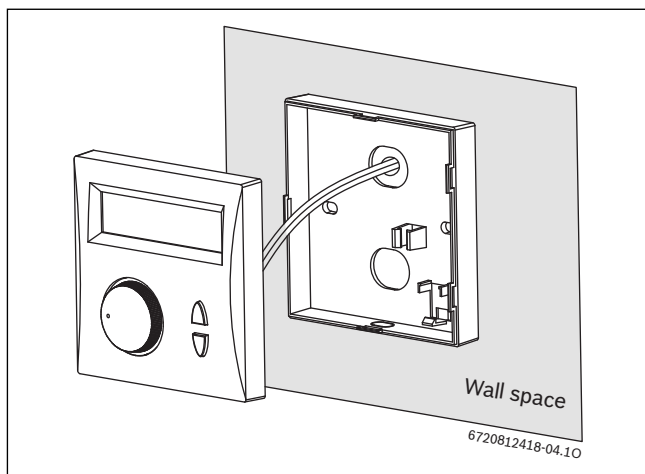

Fig. 7
- Fix the product on the back cover, as shown in Fig. 7.